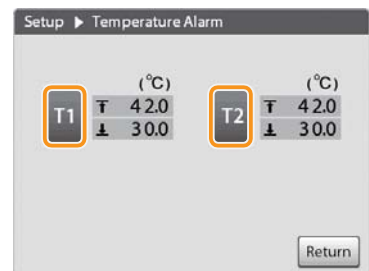

Figure 3-20
2. Tap the channel ([T1] or [T2]) you want to set. (Figure 3-20)